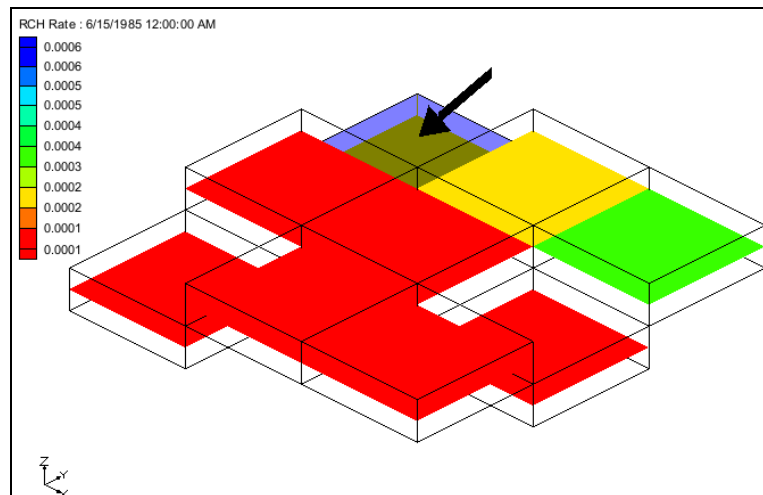

Figure 10 RCH rate cell to select
2. Using the **Select Cells**  tool, select the cell shown in Figure 10.